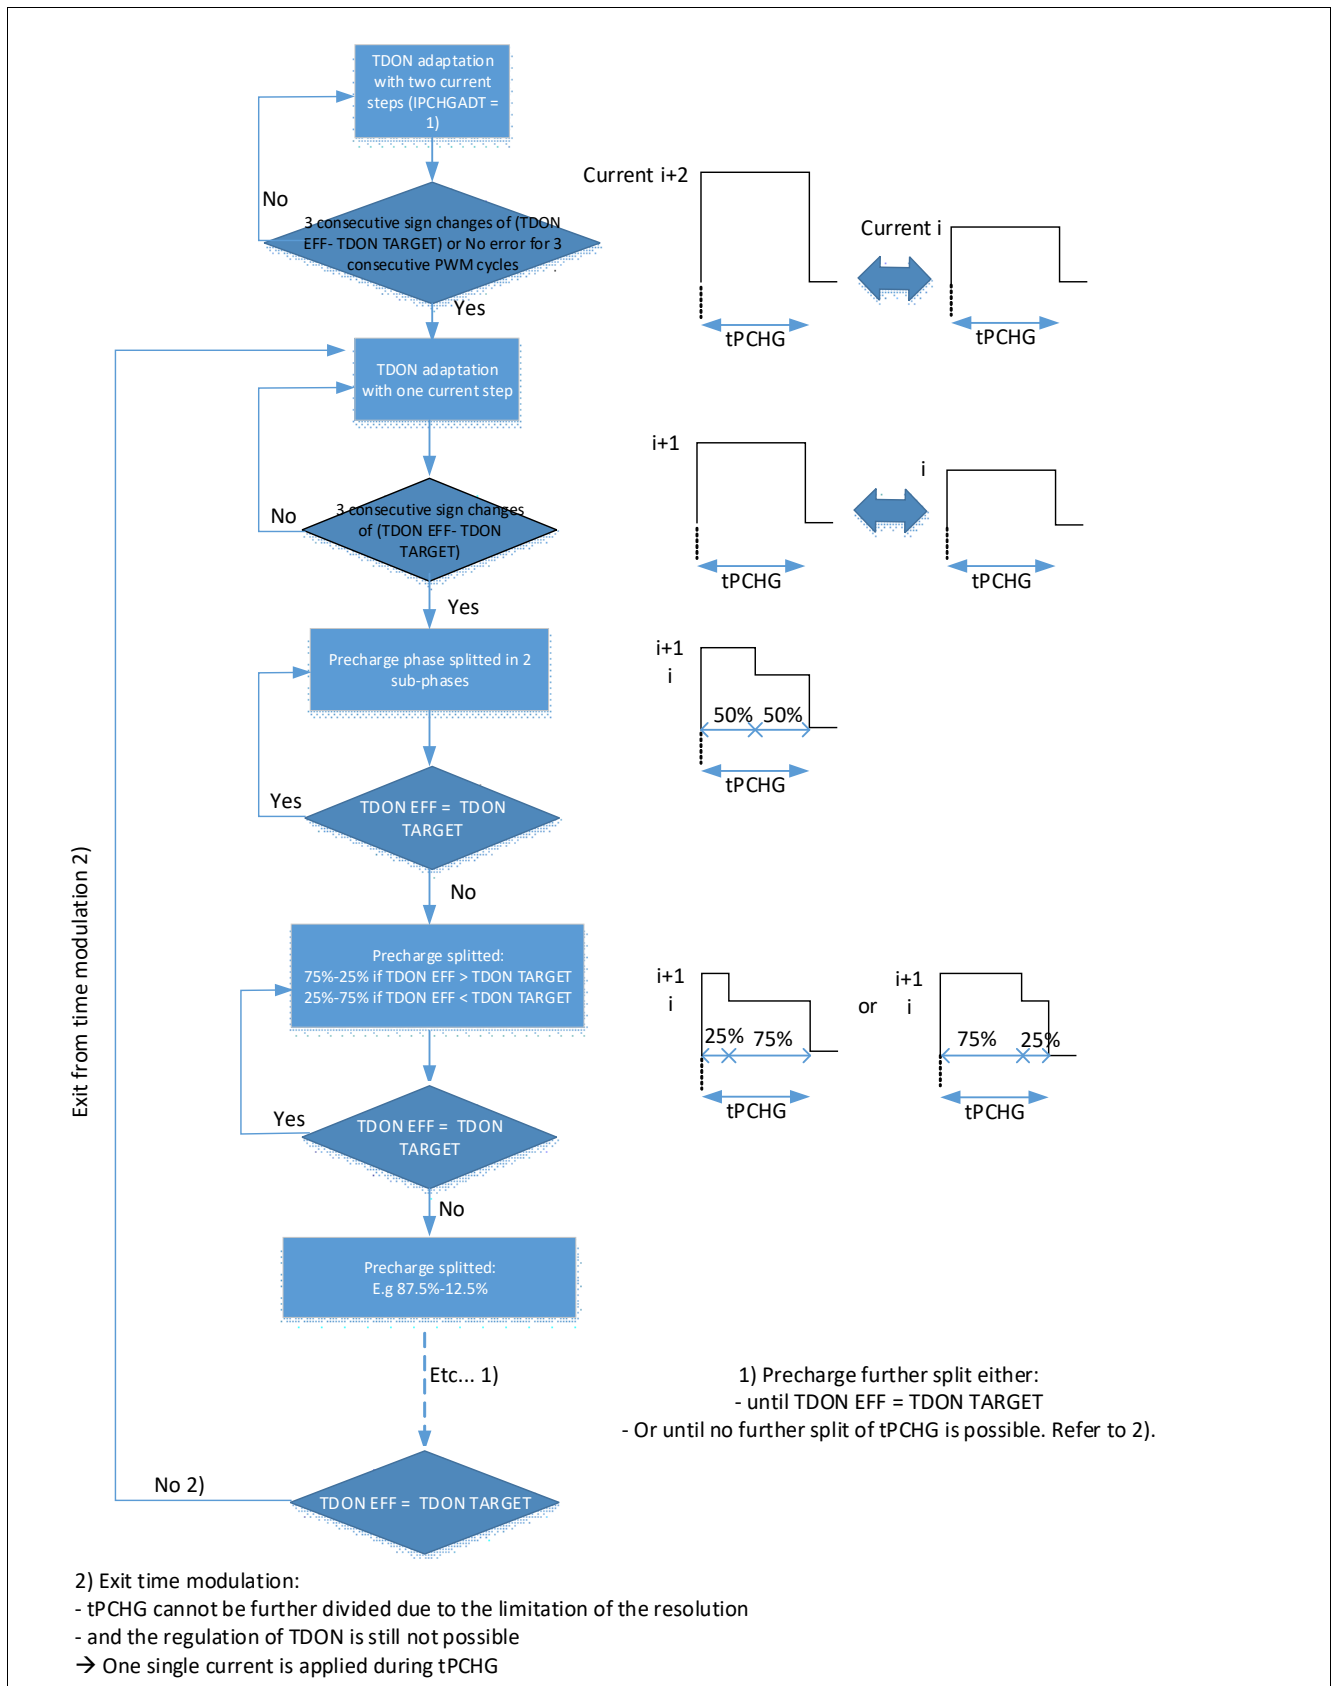

Figure 67 Principle of the time modulation of the precharge phase, DEEP\_ADAP = 1, AGC = 10B or 11B
**Figure 67** describes the principle of the time modulation applied to the precharge phase. The same principle is also applied for the regulation of the pre-discharge phase.